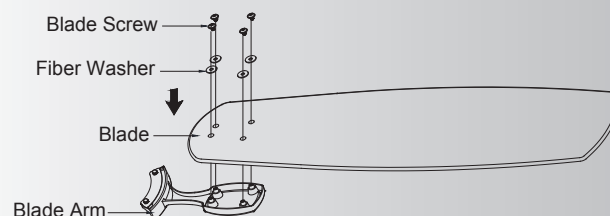

Fig. 16
Step 1. Position the blade over the blade arm with threaded posts showing. Make sure the bottom edge of the blade is fully seated against the blade arm. Tighten each screw securely and make sure the blade is straight. Repeat steps for the remaining blades. (Fig. 16)